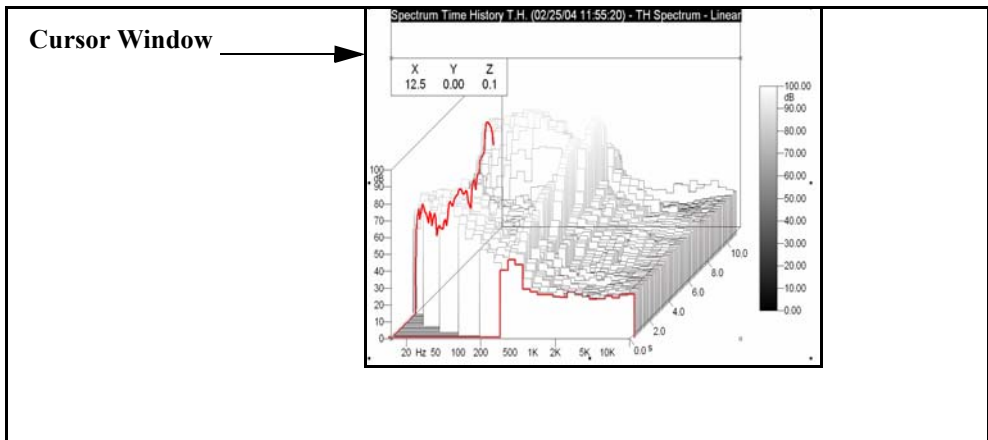

FIGURE 5-79 Waterfall with Cursor Windows
Left click “at Top-Left corner” and left click **OK** to place a Cursor Window in the upper left corner of the Waterfall Graph as shown in FIGURE 5-79 .
As can be seen from FIGURE 5-79 , there are two cursors, perpendicular to one another in the frequency-time plane. The cursor window lists the values of Frequency (X), Amplitude (Y) and Time (Z) corresponding to the intersection of these two cursors.